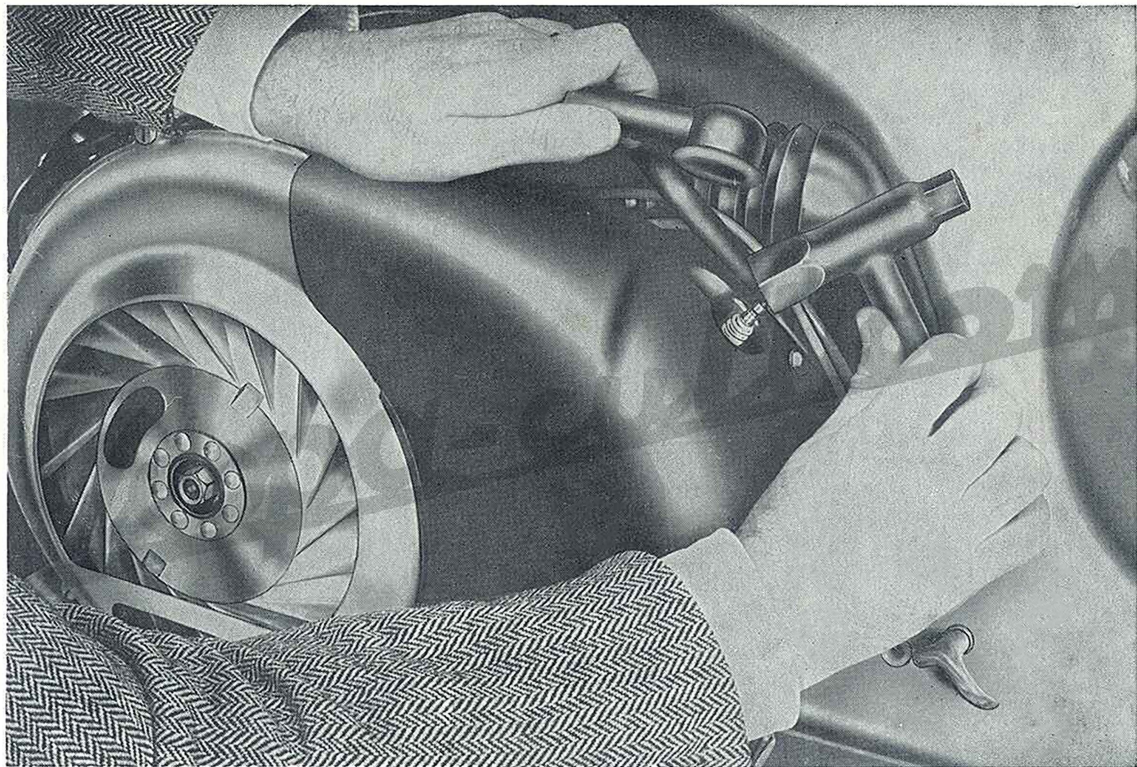

Fig. 10 - Dismantling spark - plug
- Close the fuel tap, remove the sparking plug (fig. 10) and clean; then kick over the engine several times.